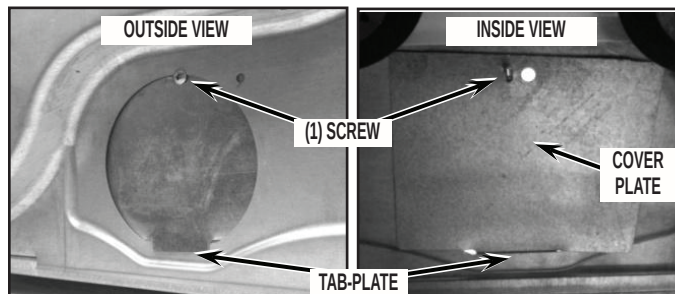

FIGURE 12
15. Plug the 4" hole in the rear panel that the existing exhaust vent ran through using the metal cover plate included with kit. Use screw included with kit to secure plate in position. Install plate from the inside of the dryer rear panel with tab of plate positioned as shown in *Figure 12*.